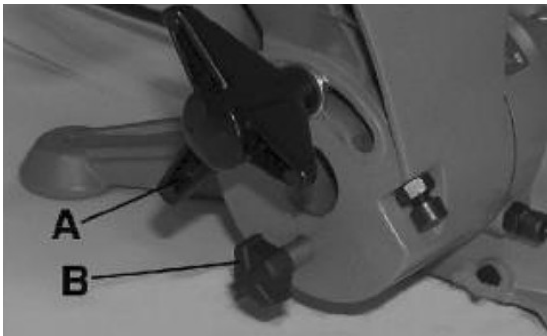

Fig. 9: Adjusting the angle of inclination
The saw head can be tilted up to 45° to the left and right (see Fig. 9). Snap-in points exist for 15° and 30° in both directions. Proceed as follows for the inclined position:
Step 2: Loosen the locking screw (A, Fig. 9) and pull the locking knob (B).